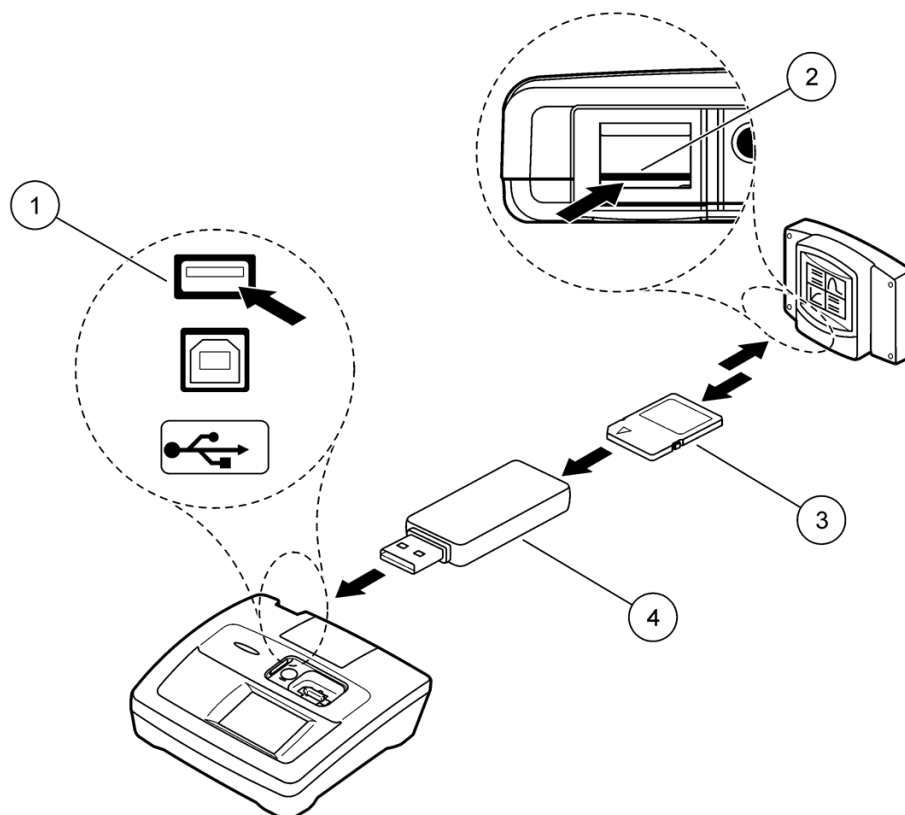

Figure 1 Export data from the sc1000 controller to the DR 3800
1. Insert the SD SanDisk card in the USB adapter and connect the USB adapter to the USB interface (type A) on the DR 3800 (Refer to Figure 1 on page 5).